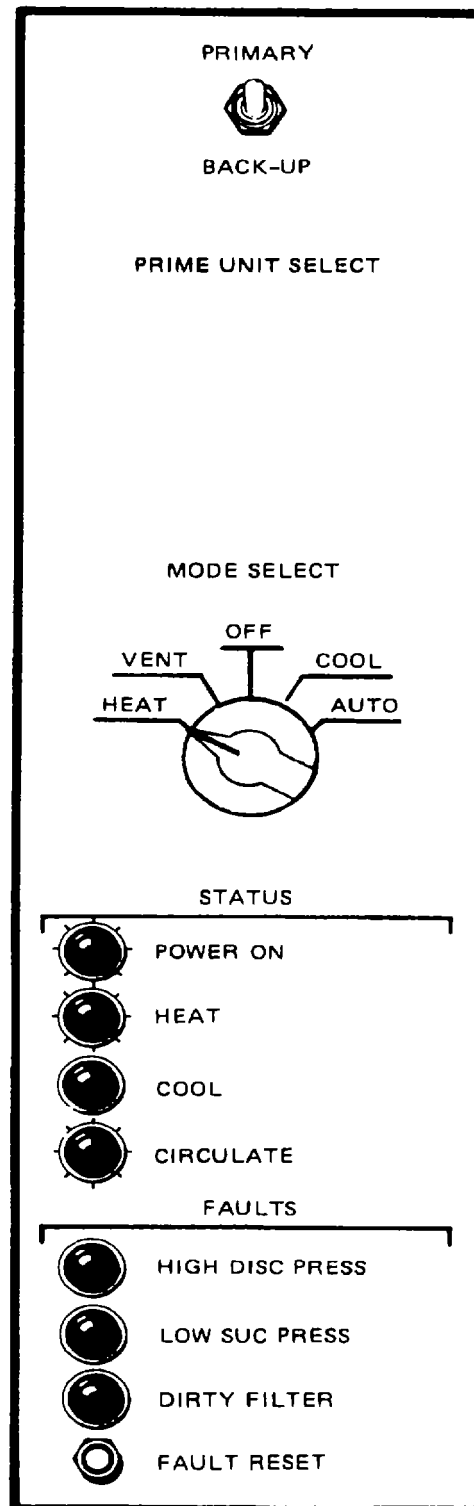

Figure 2-4. Heat Mode
**2.9 OPERATION IN HEAT MODE (see fig. 2-4)**